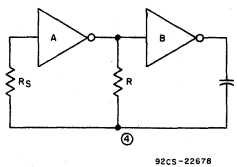
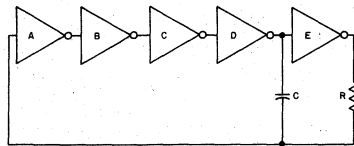

Fig. 4—RC oscillator with the addition of  $R_S$ .
Fig. 8 — CD4047A oscillator section
The negative features of the input protection circuit can be partially compensated for by the addition of a resistor,  $R_S$ , in series with the input protection circuit, as shown in Fig. 4. Although the input inverter A is still clamped at one diode drop above  $V_{DD}$  or one diode drop below  $V_{SS}$ , the waveform at point (4) is allowed to swing well above  $V_{DD}$  and below  $V_{SS}$ . The larger swing reduces the dependency of transfer-voltage variations upon stability; the variable characteristics of the input protection circuit and their effect upon stability are greatly reduced. An analysis of this circuit is presented in
The RCA-CD4047A is an integrated RC oscillator that eliminates most of the disadvantages of the discrete circuits previously discussed. The primary reason for this improved performance is the special input-protection circuit which allows the capacitor charging waveform to swing above  $V_{DD}$  and below  $V_{SS}$  without the need for an external resistor. This circuit, shown in Fig. 8, has the same time period and stability as the circuit in Fig. 4 for the case where the value of  $R_S$  is infinite. However, a resistor is eliminated, as well as the advantages of a time constant caused by the resistor.
An additional advantage of the CD4047A is a reduction in power dissipation as compared to the discrete multivibrators discussed previously. Inverter A in Fig. 8 is designed with high-impedance components that limit power dissipation during the time that the inverter operates in the middle of its transfer region. Four additional inverters are used to gradually shift from a very-high-impedance inverter at the input to a very-low-impedance driver in series with the external timing resistor. Calculations for power dissipation and a comparison of  $P_{diss}$  for the CD4047A and a discrete oscillator are presented in Appendix D; the result is